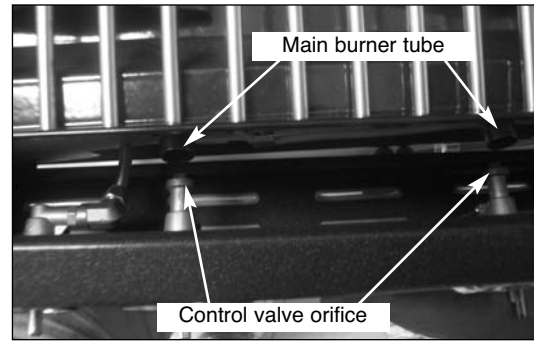

Fig 11
13. Push the front control panel back in position, make sure the orifices of the valves insert into the main burner tubes. Then use the four (4) screws removed in step 6 on page 3 to secure the front control panel in position. (See Fig. 11)